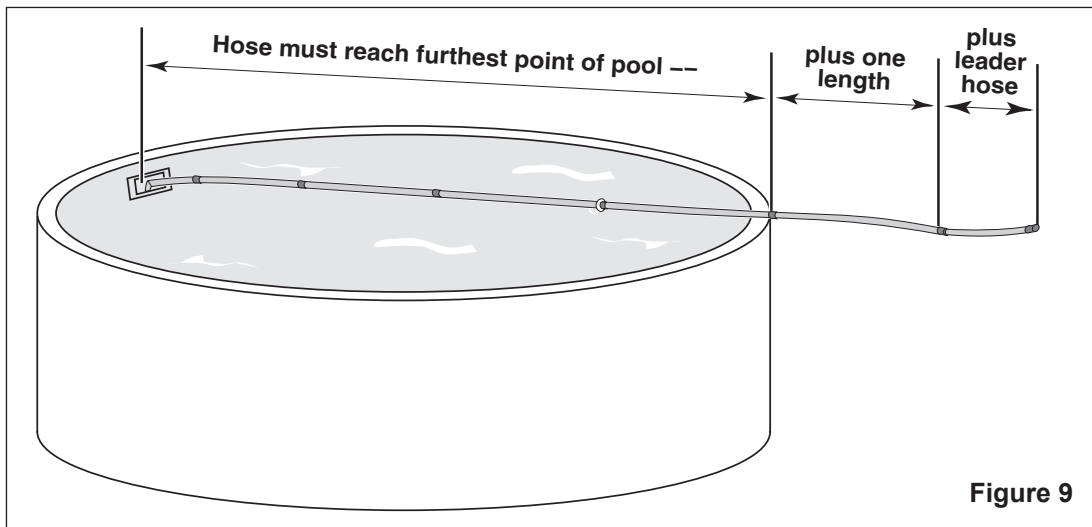

Figure 9
2. The hose should be long enough to reach the end of the pool, plus one hose section and the leader hose. See **Figure 9**.